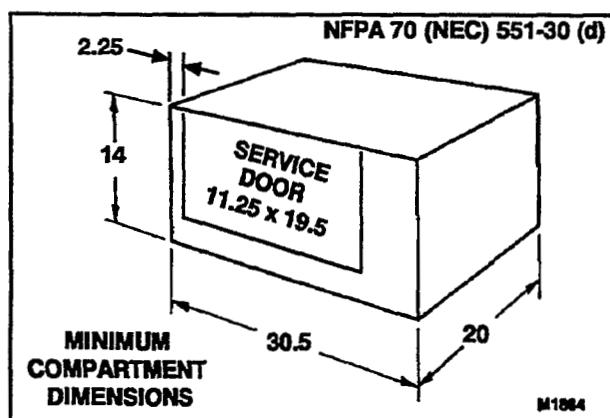

FIGURE 3-3. COMPARTMENT DIMENSIONS
1. Carefully measure the compartment size to make sure there will be proper clearance for the generator set. Figure 3-3 shows the compartment dimensions. Add 1/2 inch to compartment depth if 1/2-inch insulation is used inside the door.